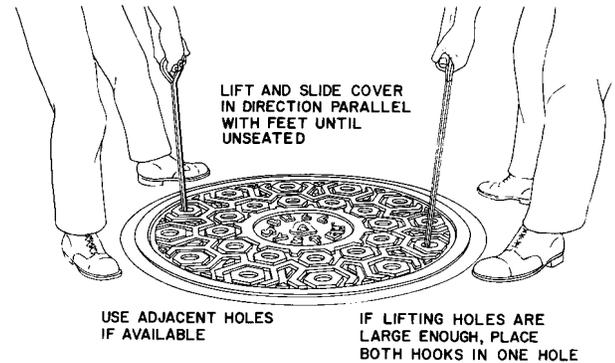

Fig. 17—Unseating Cover With Lifting Holes in Cover Surface
3.10 Other round covers may have lifting holes in the surface of the cover instead of notches in the rim. When removing covers of this type, insert the manhole hooks in the holes as shown in Fig. 17 and lift to unseat the cover about 4 inches. One hook is then engaged with the circumferential rib on the underside of the cover to hold the cover unseated. Thereafter, proceed as in 3.09(4) and succeeding paragraphs.